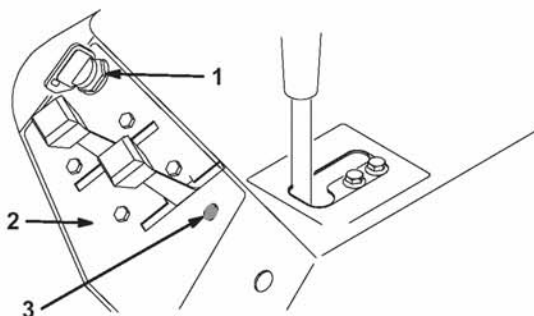

Figure 1
2. Unplug the wire harness connector from the underside of the key switch terminal (Fig. 1).
4. Under the control panel decal, locate the unused hole in the fender for the auxillary light switch indicator (Fig. 1). Cut out the decal material to expose the hole.